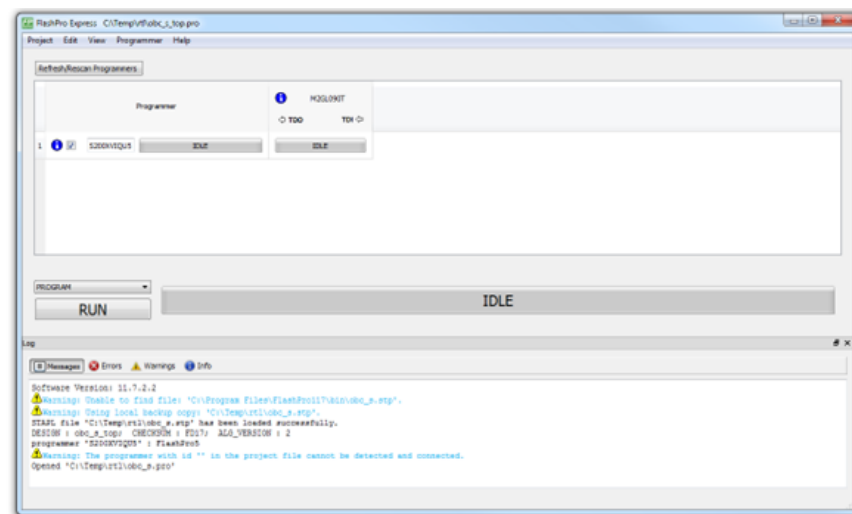

Figure 11.2 - View of FlashPro Express with project loaded.
5. Once the file has loaded (warnings might appear), click RUN (see Figure 11.2). Please note that the connected FlashPro5 programmed ID should be shown.